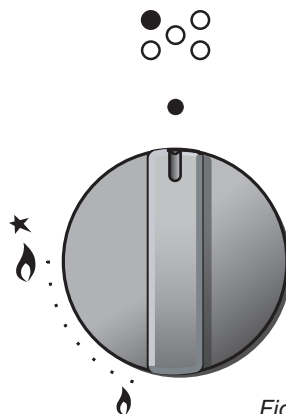

Fig. 4.3
Each hob burner is controlled by a separate gas tap operated by a control knob (fig. 4.3) which has 3 positions marked on the control panel, these are:
- 1) Press in the corresponding knob and turn counter-clockwise to the full flame position marked by the 🔥 symbol (fig. 4.3) and hold the knob in until the flame has been lit. In the case of a mains failure light the burner with a match or lighted taper.